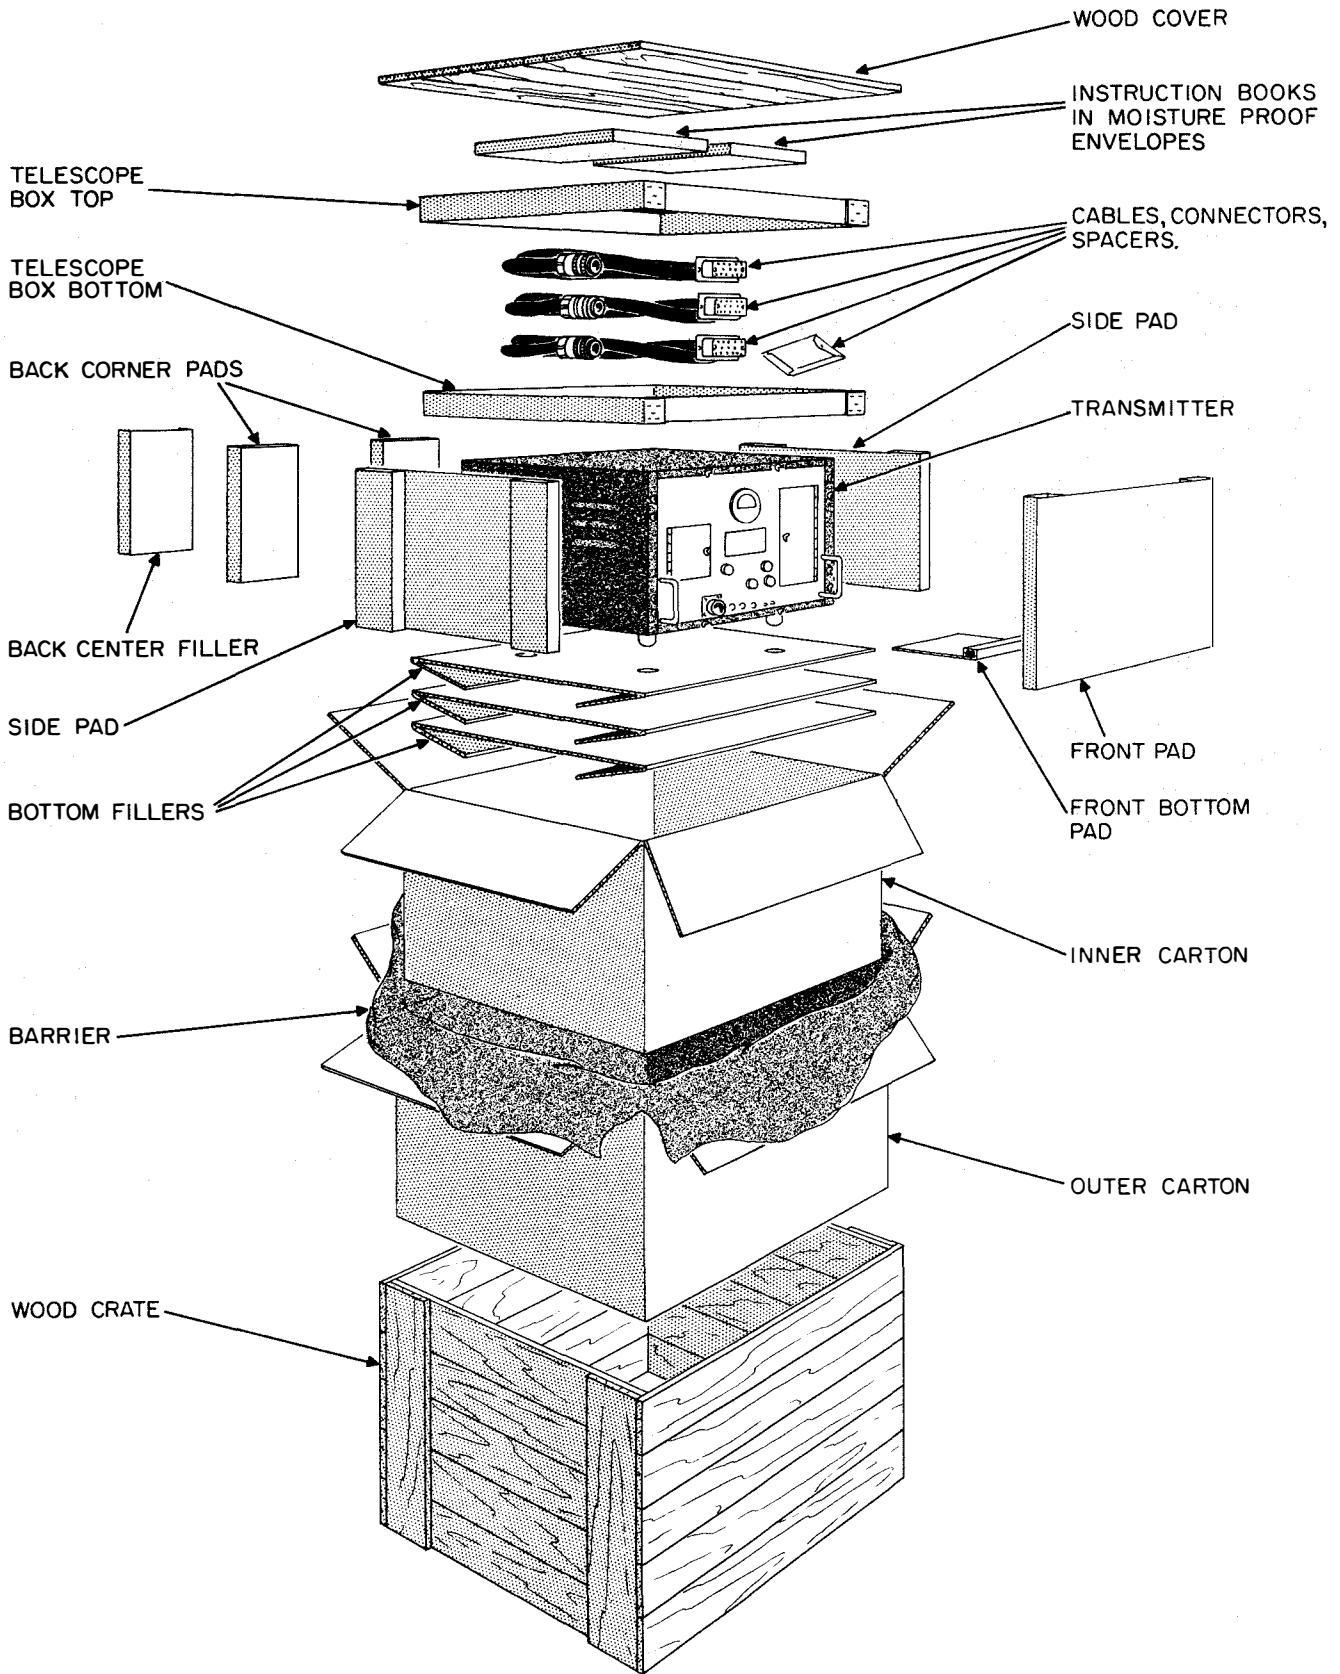

Figure 3-1. Radio Transmitting Set AN/URT-7C, Method of Packing
a. GENERAL.—Each complete Radio Transmitting Set AN/URT-7C is shipped in two containers. Container No. 1 includes the Radio Transmitter and accessories. Equipment spare parts are included in the second container. Cable Assemblies CX-1826/U, CX-1827/U, and CX-3154/U are also included in container No. 1. The method of packing is as shown in figure 3-1. In some cases the wooden packing case will not be included.
(1) Set up the packing crate as designated by the markings on the outside.
(2) If a wooden packing case is included, remove the nails with a nail puller.
(3) Slit the top of the outer carton and remove contents in the order shown in figure 3-1.
(4) Carefully lift out the Radio Transmitter and place it on a sturdy work bench or table.